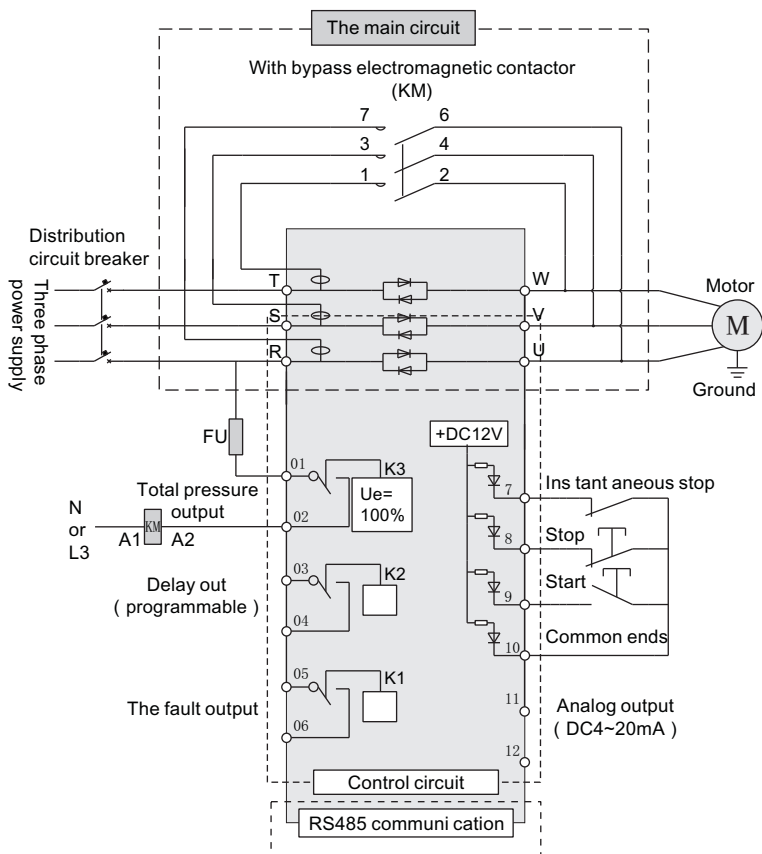

Fig. 2-3-1
- Please note the following instructions when wiring. Fig. 2-3-1 is the basic wiring diagram.